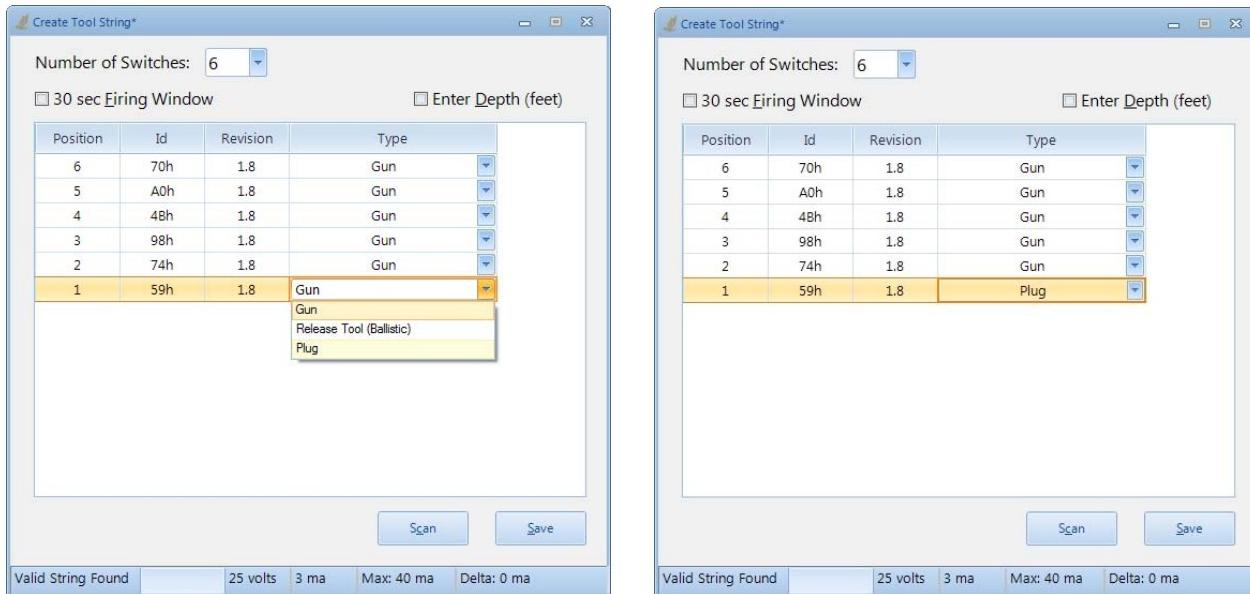
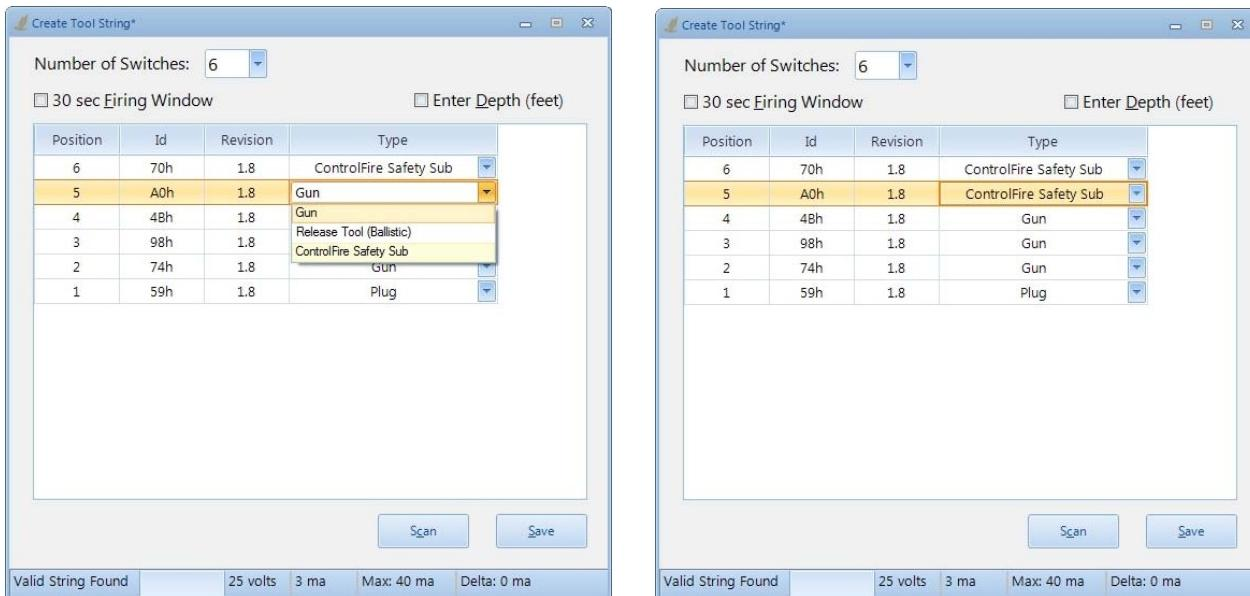
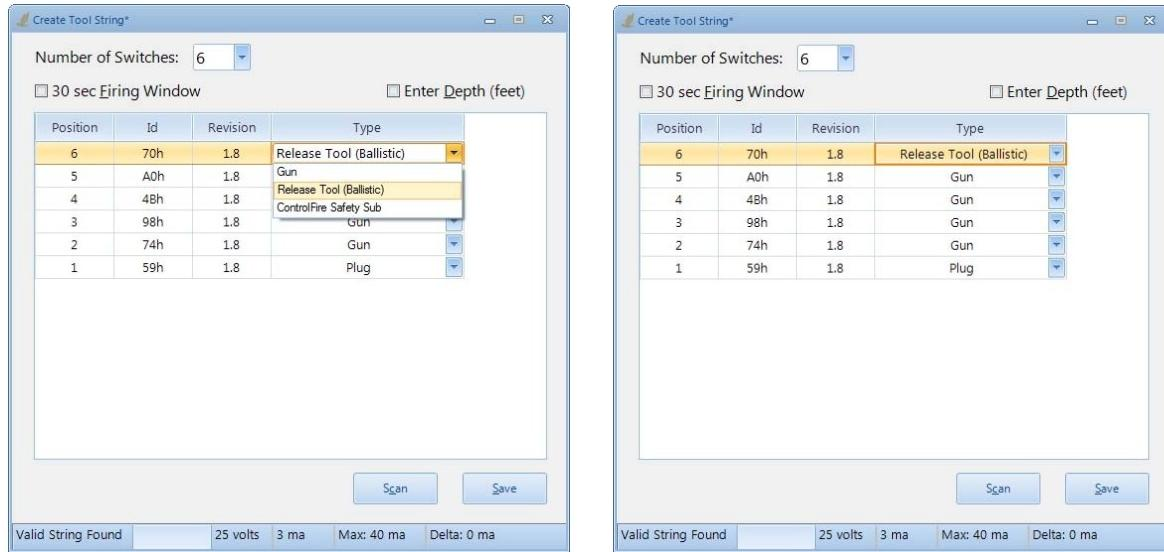

Figure 21
Figure 22
Figure 23
7. The Switch Type can be changed using the dropdown arrow to the right of each switch type. For plug and shoot operations, the bottom switch should be changed to “Plug” as shown in Figure 21. If a ControlFire Safety Sub is in the tool string, the top two switches should be changed to “ControlFire Safety Sub” as shown in Figure 22. If a ballistic release tool is in the tool string, the switch type should be changed to “Release Tool (Ballistic)” at the switch position which it is located in the string as shown in Figure 23.